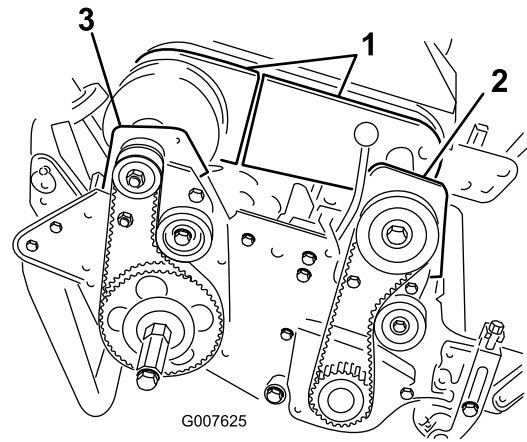

Figure 41
4. Remove the bolts securing the front and rear sections of the differential cover to the differential housing and slide the cover sections away to expose the belt (Figure 41).
6. Remove the 2 bolts and locknuts securing the front clutch housing to the side plate (Figure 41).
8. Remove the 2 bolts and locknuts securing the right rear bearing housing to the side plate (Figure 41).